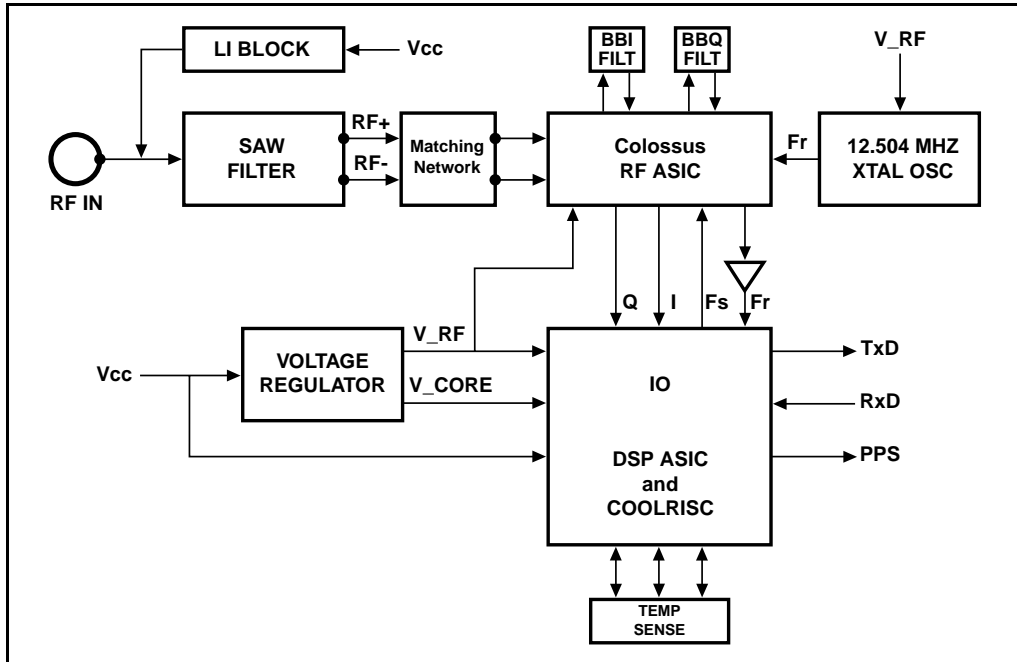

Figure 1.1 Colossus / IO Block Diagram
There are two FirstGPS ASICs, an RFIC (Colossus) and a DSP ASIC (IO). These two chips—combined with a voltage regulator, a Surface Acoustic Wave (SAW) filter, and a crystal oscillator—create the GPS function hardware core. Figure 1.1 shows the block diagram of this hardware core.